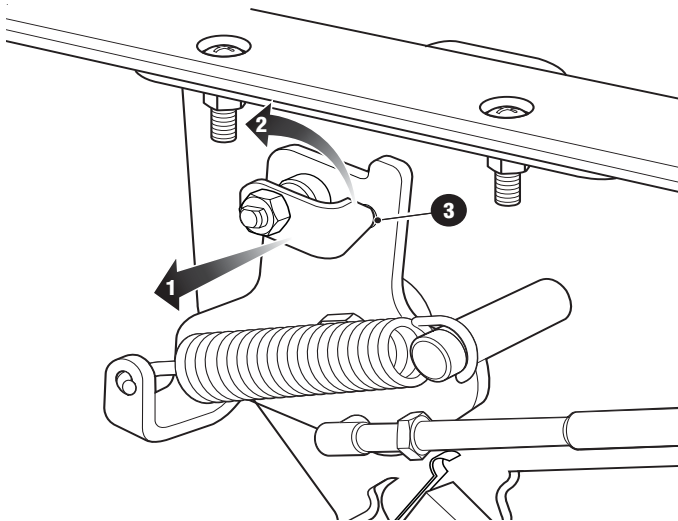

Fig. 18 Neutral Lock
To operate the neutral lock, turn the key switch to 'OFF', place the direction selector in 'R' and remove the seat. Pull out (1) and rotate (2) the neutral lock pin handle so that the pointed portion of the handle is over the side of the direction selector cam (Ref. Fig. 18). Move direction selector lever towards the area between 'F' and 'R'. During that motion, the pin will snap into the hole in the direction selector mounting bracket, preventing any movement of the lever. When in this position, the direction selector remains locked in the neutral position.